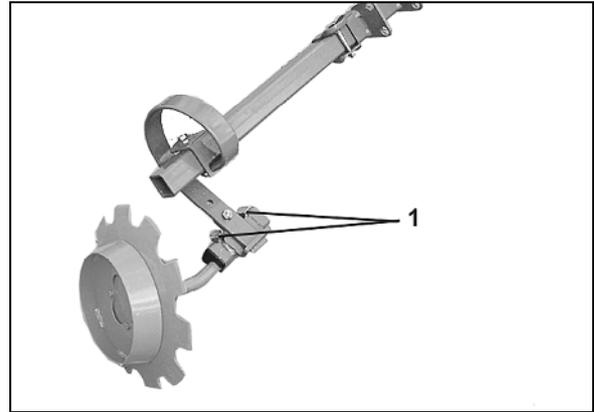

Fig. 108
1. Loosen both screws (Fig. 108/1).